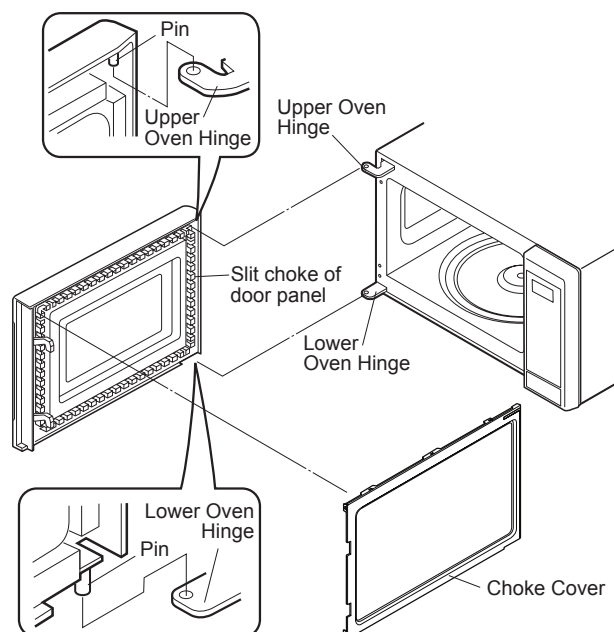

Figure C-8. Door Replacement
1. Put the adhesive tape on the backing film of the sealer film as shown in Fig. C-8.